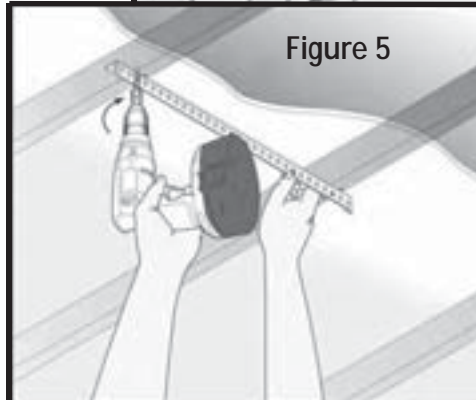

Figure 5
Step 4: Securely fasten each end of the hanger angle to the ceiling joists/beams using (2) 5/16"x1-5/8" Lag Bolts (Fig 5/6). Note: Pre-drill the two 3/16" holes to prevent splitting of the wood.